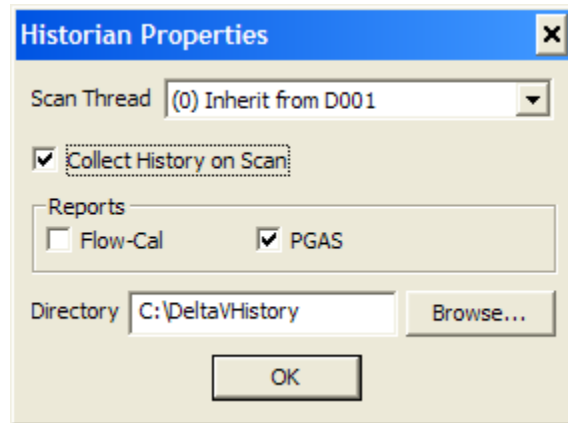

Figure 33 Historian Properties
When a new historian is added, the dialog shown in Figure 33 is displayed. You can select which scan thread should trigger history collection. "(0) Inherit from <device name>" is the default option and assigns the historian to whatever thread was specified in the device configuration. Unless "Collect History on Scan" is selected, history collection will not happen when the thread runs. In this case it will only run when manually triggered by writing to the trigger attribute of the function block. You can elect to generate Coastal Flow and PGAS report by setting their respective checkboxes. You must also specify where the history and report files will be generated. The history files will be named after the station tag in the ROC's system point.